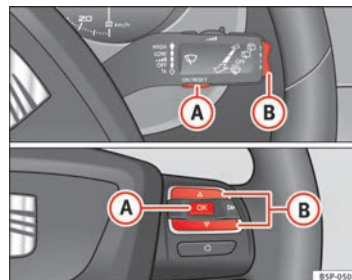

Fig. 41 Rocker buttons A and B. Steering wheel controls.
- When the ignition is on, briefly press button ⇒ Fig. 41 (A) on the windscreen wiper lever to change from one memory to another or press button (A) on the steering wheel controls ⇒ Fig. 41.